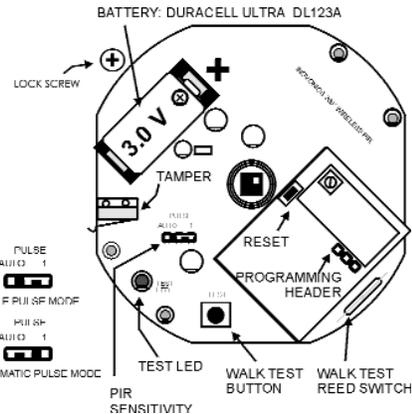

Figure 1
5. Set Pulse Sensitivity jumper in desired position. (See Figure 1.)
The Pulse Count jumper provides control for normal or difficult operating environments. Automatic Pulse Count is recommended for reliable operation in environments which may be subject to temperature fluctuations that might cause false alarms. The Single Pulse Count mode is more sensitive to minor temperature variations, and should be used in sites where variant heat sources will not cause alarms (See Figure 1.)